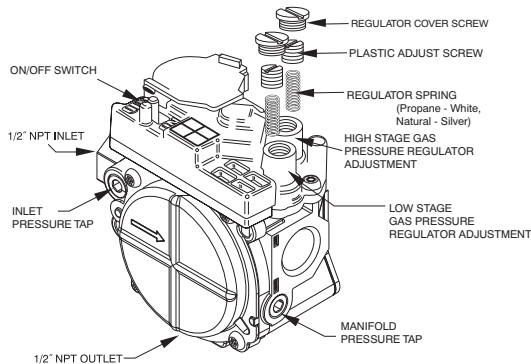

Fig. 11 - Two-Stage Gas Valve
17. Remove regulator cover screws for both high and low stage gas regulators (see Fig. 11). Save regulator cover screws.
18. Using a screwdriver, remove plastic adjust screws from both high and low stage gas regulators (see Fig. 11). Save plastic adjust screws.
19. Remove regulator springs (silver) from both high and low stage gas regulators (see Fig. 11). Discard regulator springs.
20. Install propane gas regulator springs (white) shipped with this kit. One into the low stage gas regulator and one into the high stage gas regulator (see Fig. 11).
21. Install plastic adjust screw into the high stage gas regulator. turn clockwise 13.5 turns (see Fig. 11).
22. Install plastic adjust screw into the low stage gas regulator. turn clockwise 9.5 turns (see Fig. 11).
32. Fire unit and verify proper ignition and proper sequence of operation (Table 6). See Table 8 for proper low stage and high stage manifold pressure settings for your unit. Adjust the gas valve setting for high and low stages by turning the plastic adjustment screws clockwise to increase pressure and counter-clockwise to decrease pressure for the respective stages. Refer to Table 7 for required rated heating input rates. Replace regulator cover screws when finished (see Fig. 11).